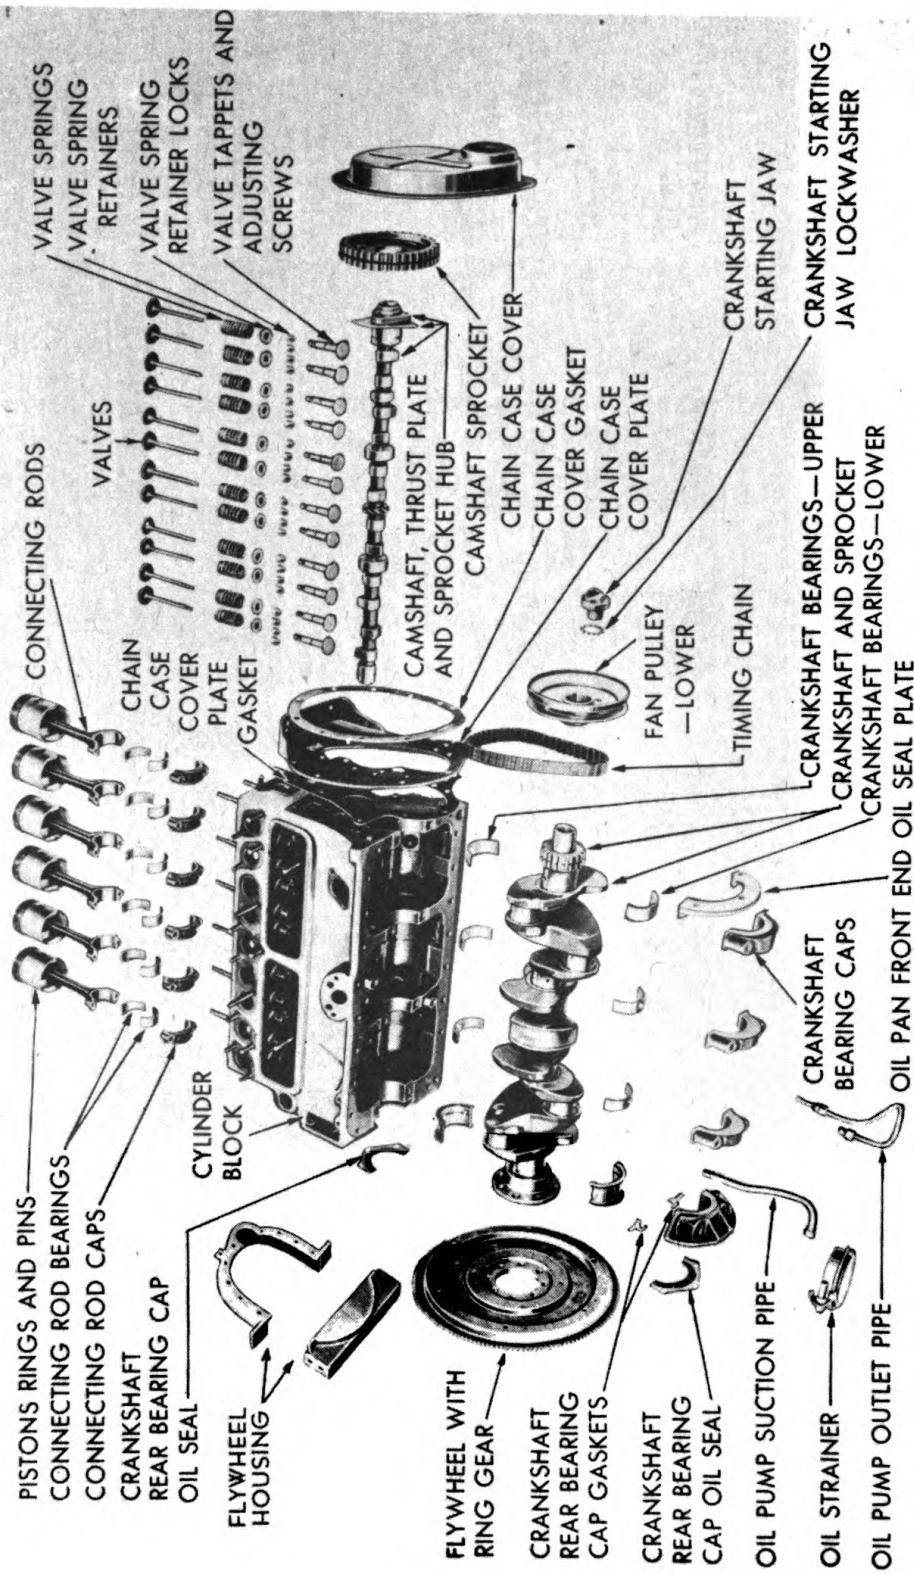

Figure 82—Stripped Engine Disassembled
85. REMOVE CYLINDER HEAD AND VALVES—(Figure 82.)
87. REMOVE PISTON AND CONNECTING ROD ASSEMBLIES. —(Figure 82.)